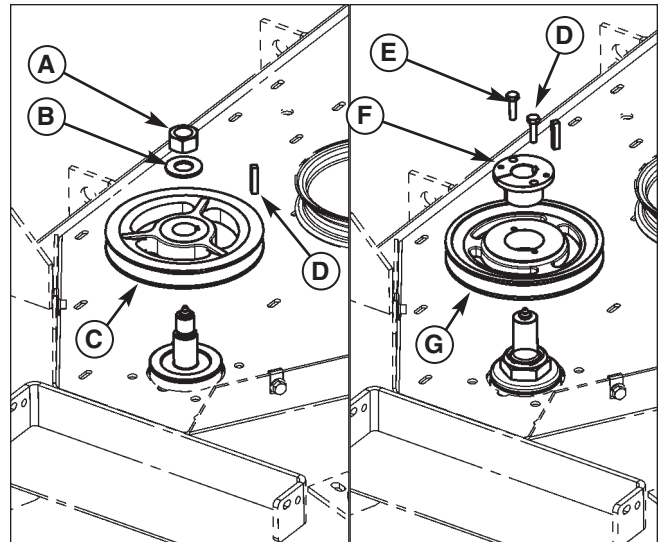

Figure 22. Remove Spindle Pulley
1. Remove the 3/4-16 hex nut & 3/4" spring washer (A & B, Figure 22) securing the spindle pulley (C) to the spindle shaft. Use a 1" wrench on the flats of the blade end of the spindle shaft to prevent the shaft from spinning. Save the 1/4" key (D).
2. Install the 3/4" spring washer (B) with the cone facing up (see insert, Figure 22). Install the 3/4-16 hex nut (A) and torque to 85-90 ft. lbs (115-122 Nm). Use a 1" wrench on the flats of the blade end of the spindle shaft to prevent the shaft from spinning.